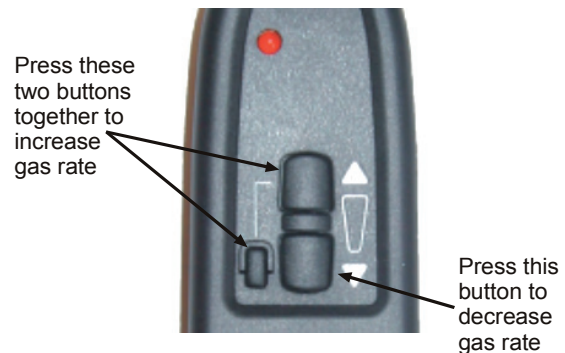

Figure 6 - Handset Operation
6. Using the HANDSET (as shown in Figure 6) press and hold both the top and the small button together until the main burner goes to full rate and clicking can be heard from the valve. During this process the main burner will ignite from the pilot.